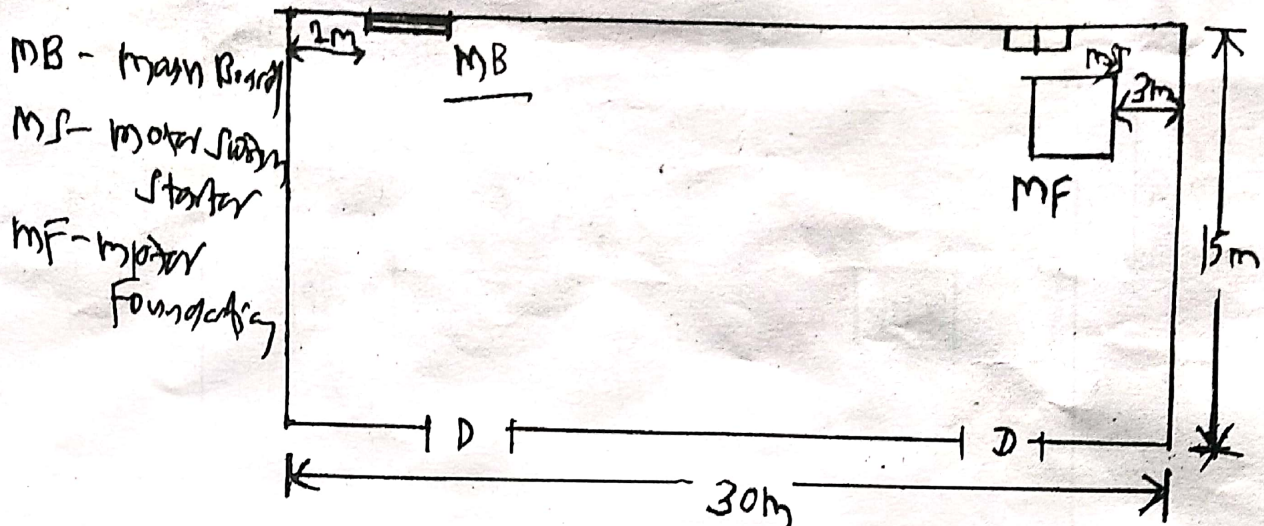

Fig. No. 2
- a) In a workshop, one 15 HP 400 Volts, three phase 50 Hz motor is to be installed. Prepare the estimate of quantity of material required and its cost with a layout of the wiring. The plan of the workshop is shown in Figure No. 2.